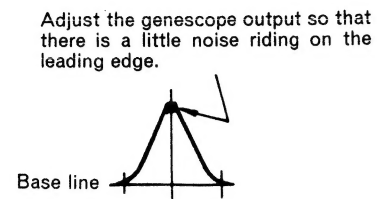

Fig. 1
1. Feed in a weak signal to TP102 from the genescope. Adjust T101, T202 for maximum gain and the wave form indicated in Figure 1. If the center of the wave form cannot be lined up on the marker, adjust the right/left balance.